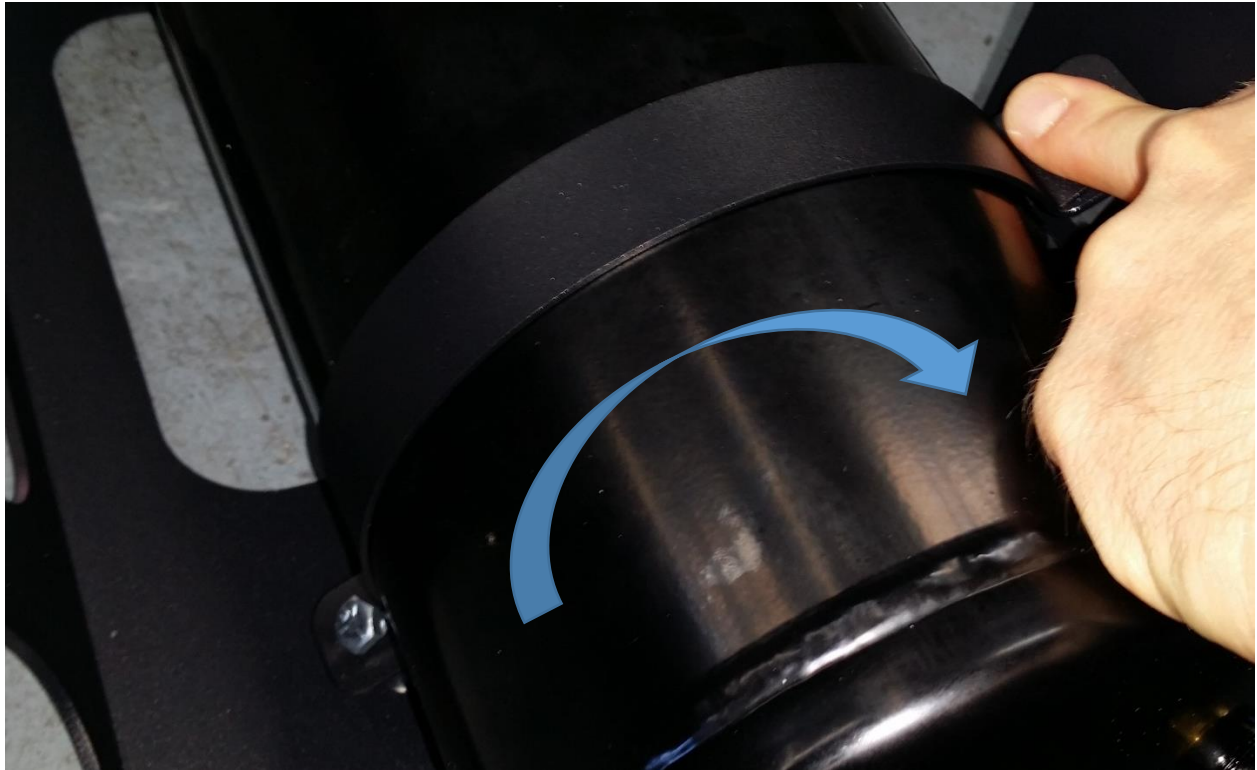

Figure 7 - JK-202 Hand Formed/Bent around Air Tank
9.3.3. Bend each JK-202 around tank, so they end up shaped round like tank, as shown in Figure 7 below.
- 10.1.7. Install JK-203 Frame Strap over front cross member and align with JK-201, as shown in Figure 7 below; install hardware #3, #14, #20 and #10 to point “D”, as shown in Figure 10. Use #2, #13, and #19 and attach to point “E”. Hand tighten.